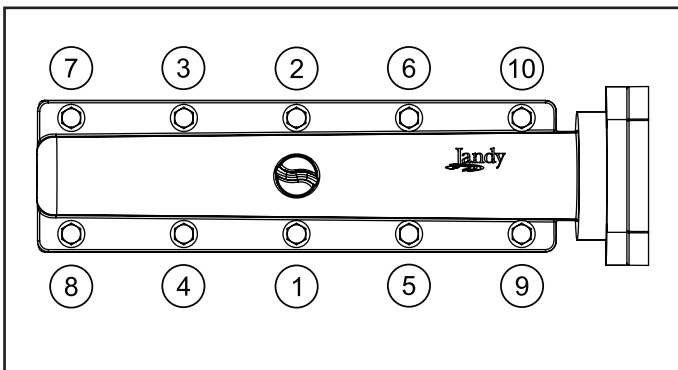

Figure 14. Header Bolt Tightening Sequence
16. Use a torque wrench to tighten the bolts on each header to 4 foot-pounds. The bolts must be tightened in the sequence indicated in Figure 14.